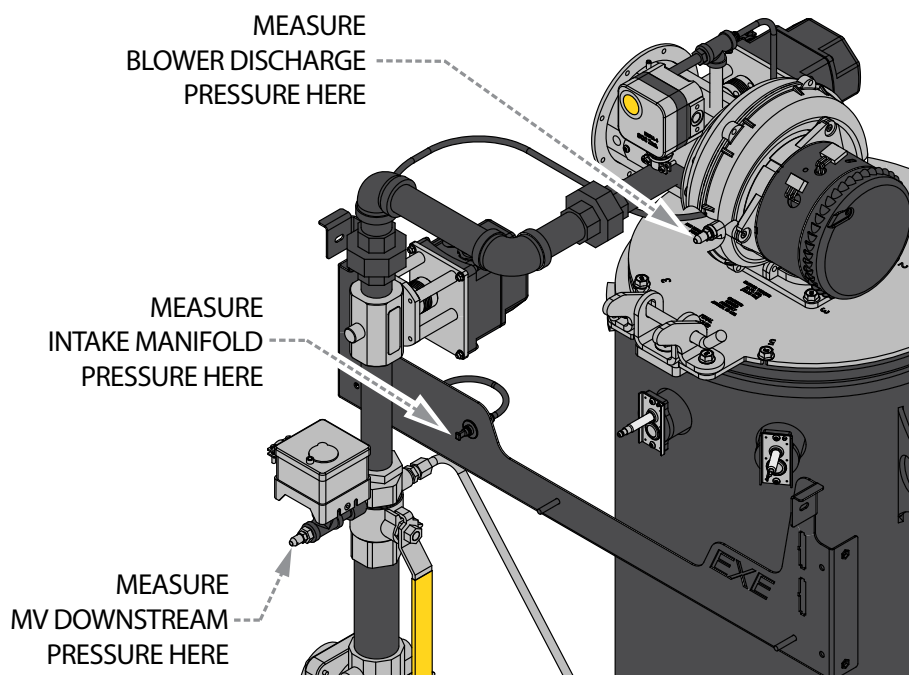
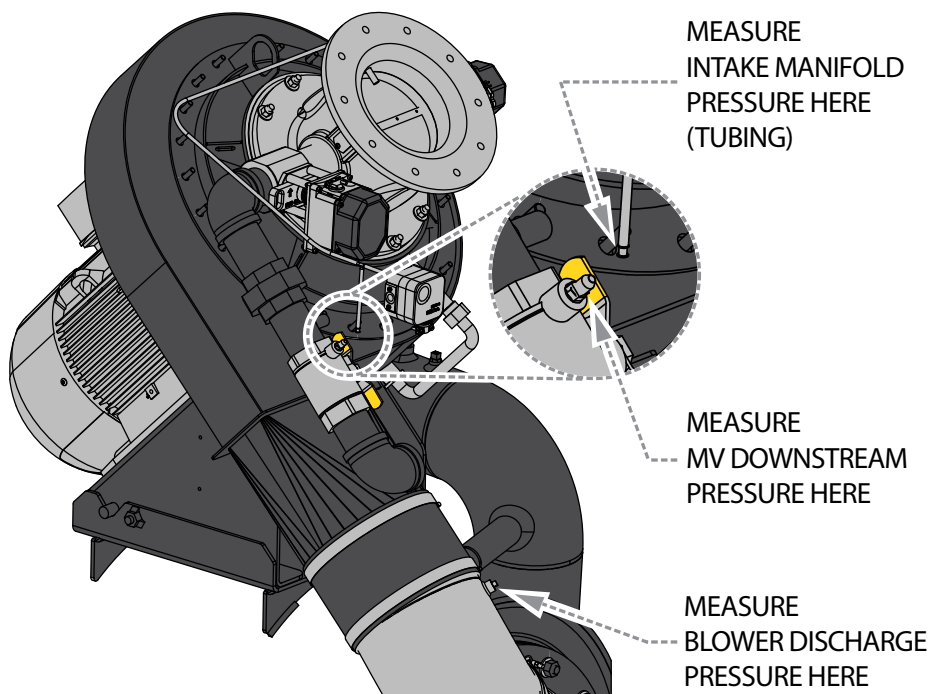

FIGURE 24 - MANIFOLD AND BLOWER PRESSURE MEASUREMENT (EXE-1000-3000)
FIGURE 25 - MANIFOLD AND BLOWER PRESSURE MEASUREMENT (EXE-4000-6000)
1. Upon reaching P1, adjust Blower Position as necessary to ensure “Blower Discharge” pressure is set in accordance with **Table 8**. Refer to **Figure 24** and **Figure 25** for Intake Manifold measurement locations.
2. Adjust Air Position to set Intake Manifold pressure in accordance with **Table 8**. Refer to **Figure 24** and **Figure 25** for Intake Manifold measurement locations.